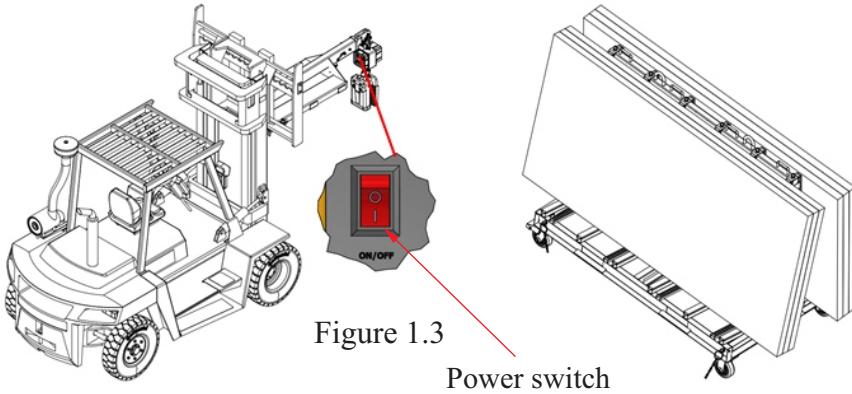

Figure 1.3
Step 3. Turn on the power switch and move to the location where the material slab needs to be handled (Figure 1.3).